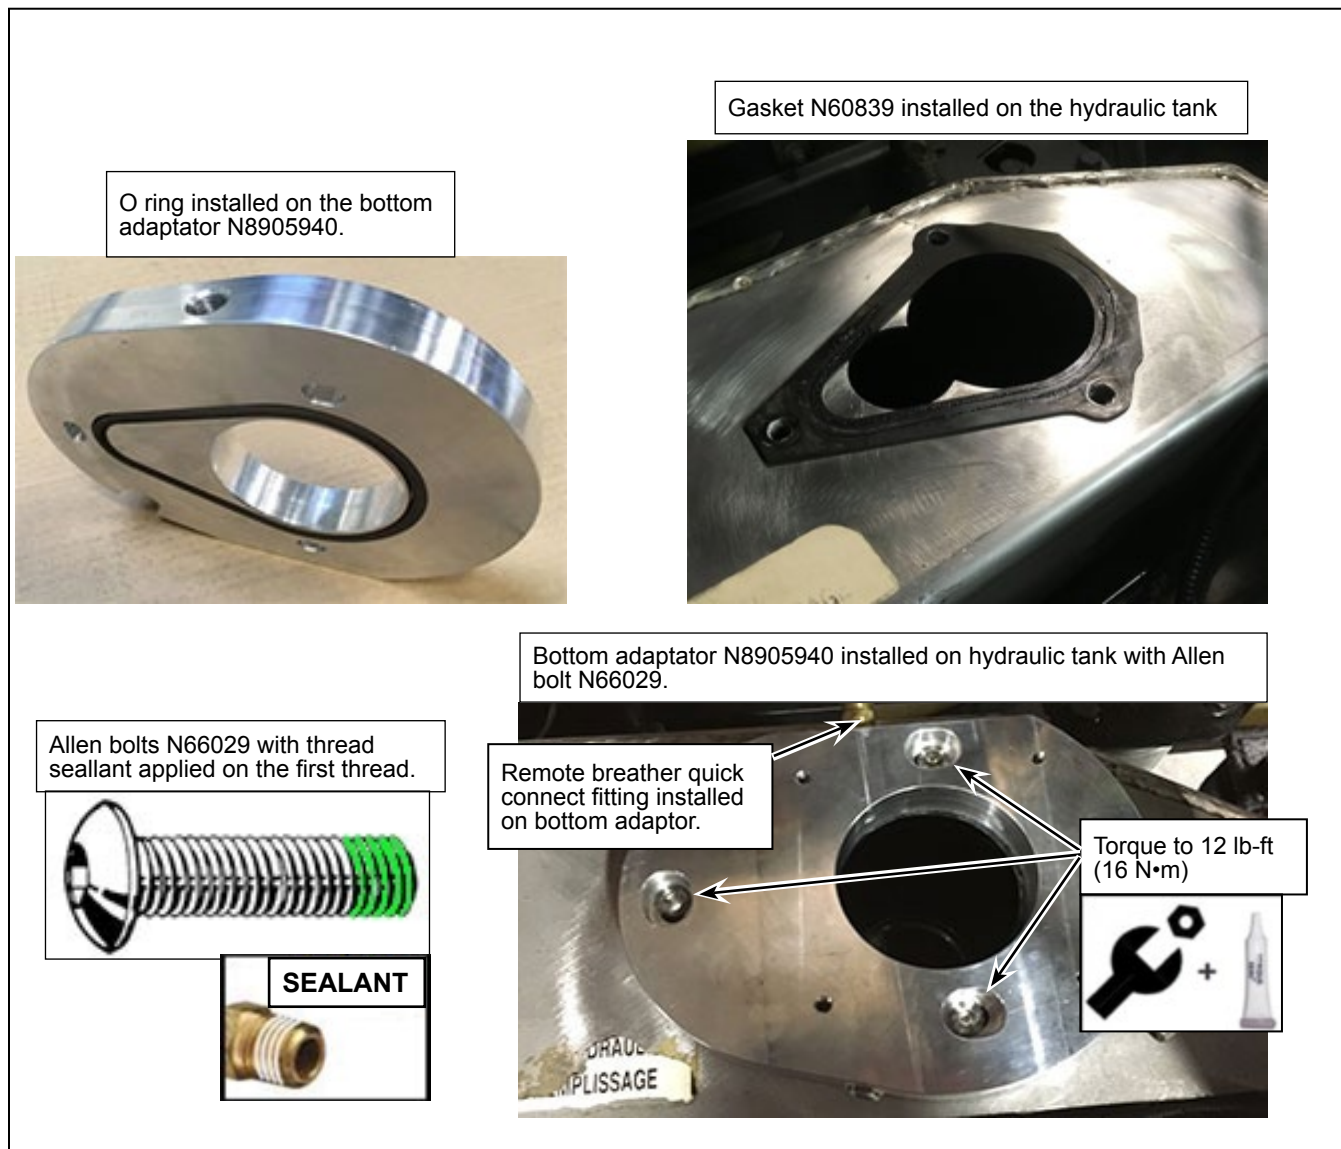

Figure 3 - Bottom Adaptor and Remote Breather Quick Connect Fitting on Hydraulic Tank
- 1.17. Install the supplied O-ring on the bottom adapter plate N8905940 (include in the N8905966 kit). See Figure 3.
- 1.18. Install the gasket N60839 on the hydraulic tank. See Figure 3.
- 1.19. Apply a thin coat of thread sealant on the first thread of the Allen bolts N66029. See Figure 3.
- 1.21. Install the retained remote breather quick connect fitting on the bottom adaptor plate. See Figure 3.